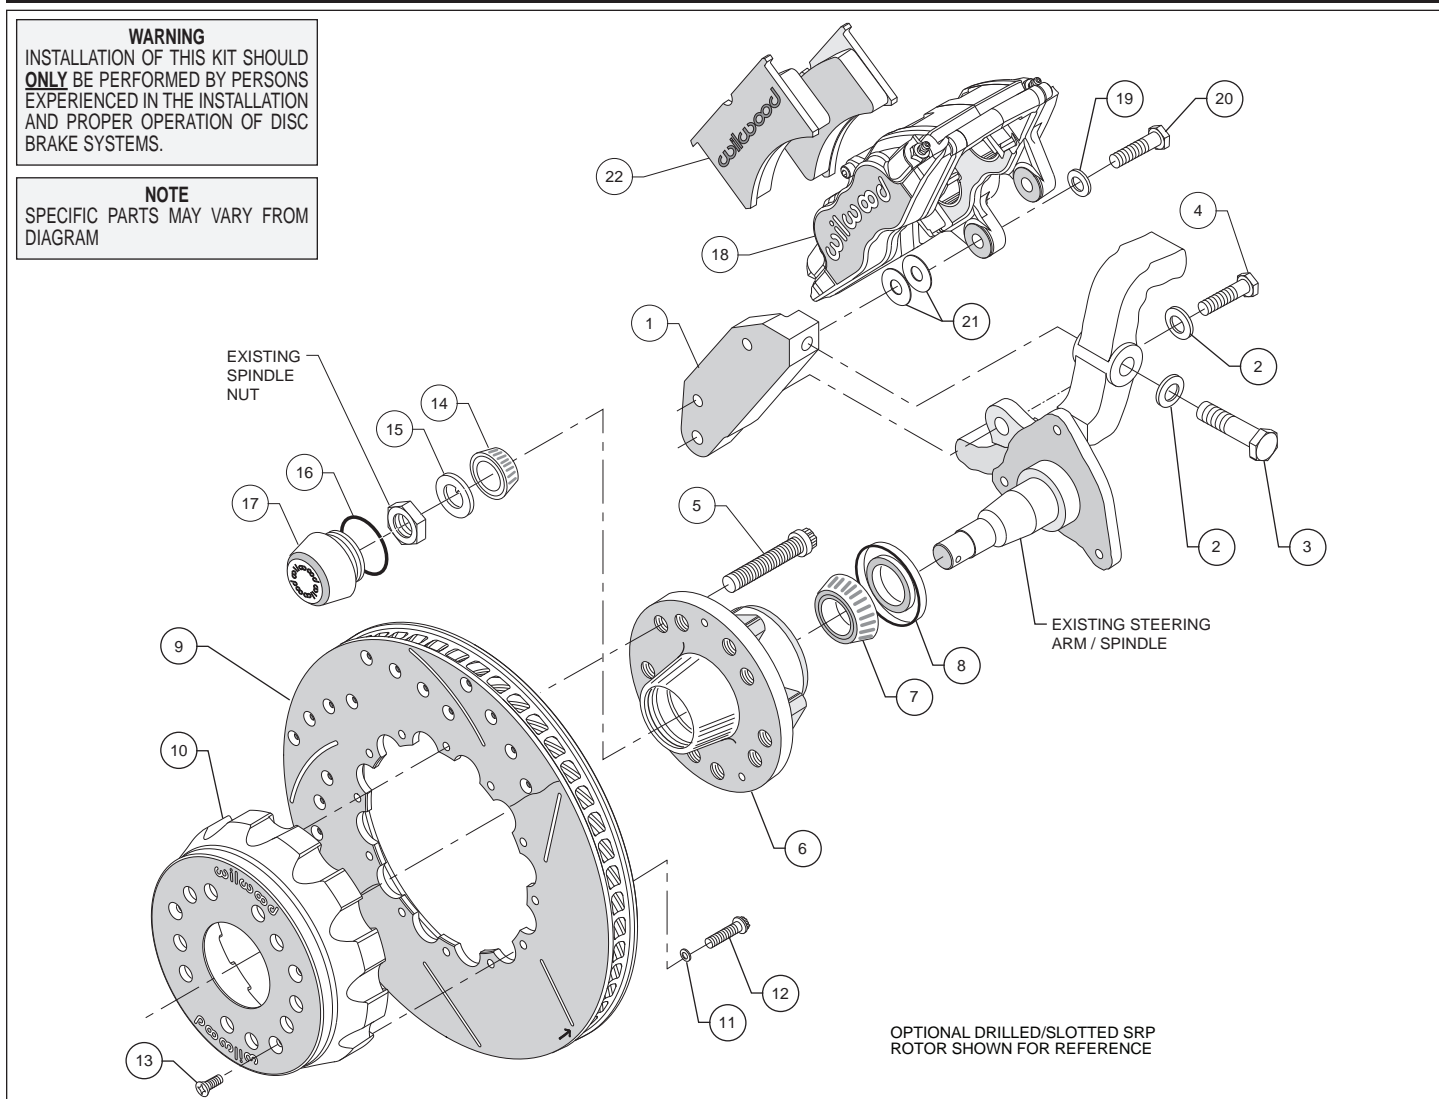
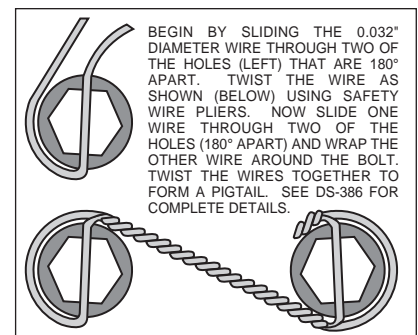

Figure 1. Typical Installation Configuration
Figure 3. Safety Wire Diagram
- The caliper mount bracket assembly (1) should be installed first with clean, dry threads on the mounting bolts. Install the bracket by sliding bolt (4) through washer (2) from the back side through the lower caliper mounting ear on the spindle. Slide bolt (3) through washer (2) from a 90° degree angle on the upper portion of the steering arm. The bracket must tighten squarely against the outboard side of the caliper mount bosses on the spindle body. Inspect for interference from casting irregularities, machining ridges, burrs, etc. Later, after the caliper, pad, and rotor alignment has been checked, and any necessary shims have been put in place, the threads of the mounting bolts should be coated with red *Loctite*® 271 and torqued to 65 ft-lbs.
- Install wheel studs (5) into the hub (6). Torque to 77 ft-lb. **NOTE:** There are two (2) five lug patterns in the hub (5 x 4.50 and 5 x 4.75). Make sure of the correct hole pattern for the correct wheel application before installing studs into hub.
- Pack the large inner bearing cone (7) with high temperature disc brake bearing grease (available from your local auto parts store) and install into the backside of the hub (6).
- Install the grease seal (8) by pressing into the backside of the hub (6).
- Pack the small outer bearing cone (14) with high temperature disc brake bearing grease and install into front of hub (6). Slide the hub assembly (5, 6, 7, 8 and 14) onto the spindle. Secure using spindle washer (15), stock adjusting nut and nut locking device. Adjust wheel bearing pre-load per Original Equipment manufacturer (OEM) specifications.
- Install the o-ring (16) on the dust cap (17), and screw dust cap assembly onto the hub (6). Friction created by the o-ring (16) on the dust cap (17) keeps it from unscrewing.
- With the larger I.D. side of the rotor (9) facing away from the hat (10), bolt rotor (9) to hat(10) through the backside of the rotor using washers (11) and bolts (12). Torque bolts (12) to 85 **in-lb**. Safety wire bolts (12) using standard 0.032 inch diameter stainless steel safety wire as shown in Figure 3. Please refer to Wilwood's data sheet DS-386 (available at www.wilwood.com/Pdf/DataSheets/ds386.pdf) for complete safety wire installation instructions.
- Slide the rotor/hat assembly over the studs (5) in the hub (6) taking care to align the small countersunk holes in the hat (10) with the small threaded holes in the hub (6). Install three flat head socket head screws (13) through the small holes in the hat (10) and torque to 85 **in-lb**.
- Mount the caliper (18) onto the caliper bracket (1) using washers (19) and bolts (20) as shown in Figure 1. Initially place two .030 thick shims (21) between the caliper and the bracket. Temporarily tighten the mounting bolts and view the rotor (9) through the top opening of the caliper. The rotor should be aligned in the center of the caliper. If not, adjust by adding or subtracting shims (21) between the caliper and bracket. Apply red *Loctite*® 271 to bolt threads and torque to 42 ft-lb.
- Remove the caliper bridge spacer and bolt. Install the disc brake pads (22), then reinstall the caliper bridge spacer and bolt.